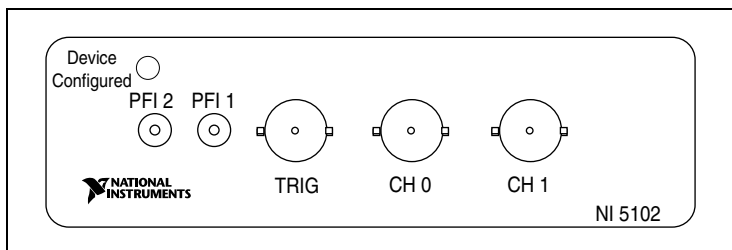

Figure 12. NI USB-5102 Front Panel
- ◆ **NI USB-5102 Front Panel**—Figure 12 shows the front panel of the NI USB-5102.